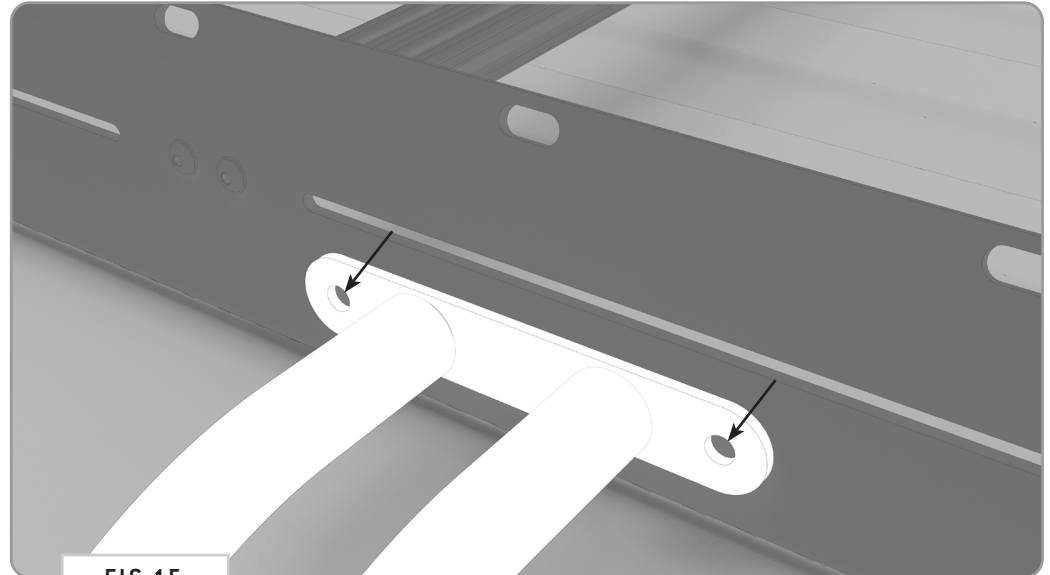

FIG 15
**5.1a Mark Drill Holes:** Once you have ensured alignment, mark the **Drill Locations** through the mounting points of the **Surf Pole** (**FIG 15**).